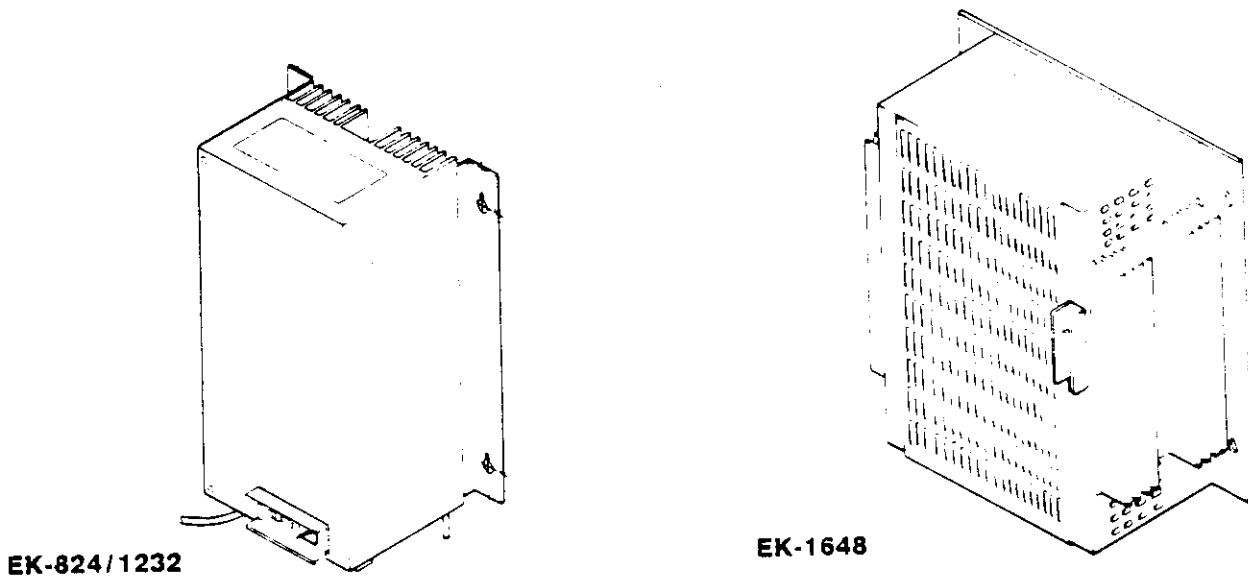

Figure 1-2 POWER SUPPLY, EK-824/1232/1648
2.07 The power supply (Figure 1-2) is a separate unit that is wall mounted next to the KSU. It provides the DC power requirements for the system.